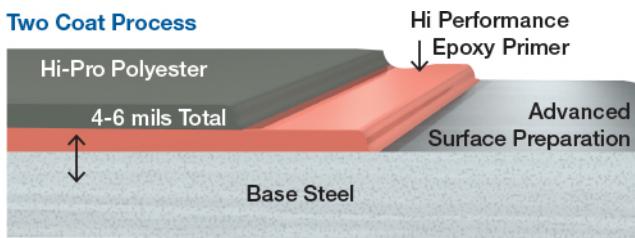

Figure 2 – LabCoat’s two-step process includes advanced surface preparation followed by a layer of industrial epoxy and one of Hi-Pro Polyester.
**LabCoat™** – LabCoat is Greenheck’s premium coating. The two-part process (*Figure 2*) includes a base coat of our best industrial epoxy with the premium Super Durable Hi-Pro applied as a topcoat. LabCoat will withstand the harshest coastal environments while offering superior chemical resistance.